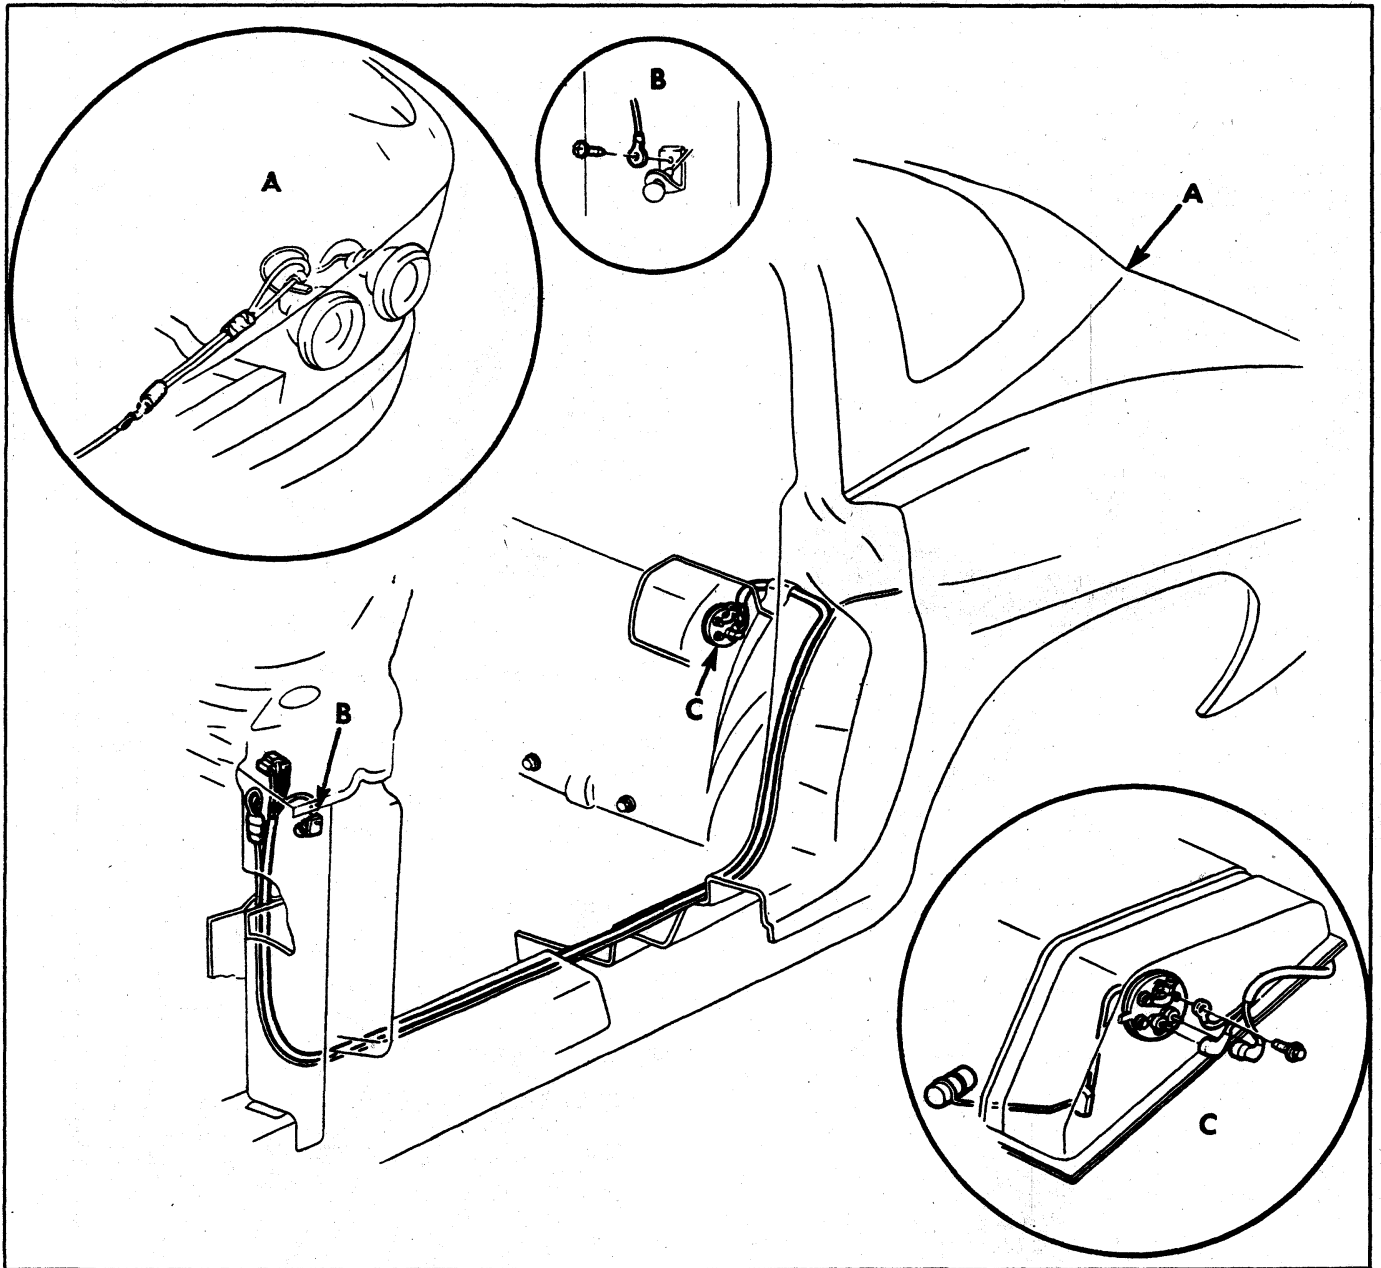

Fig. 27—Gasoline Tank (36 Gallon) Wiring
3. Disconnect fuel and vent lines and wires at tank (fig. 27).